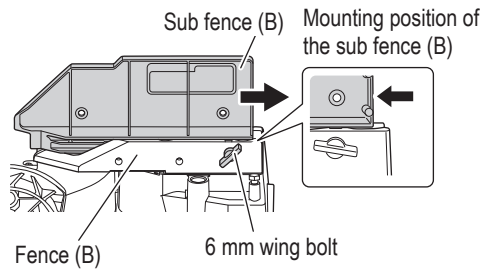

Fig. 20
When left bevel angle cutting, loosen the 6 mm wing bolt, then slide the sub fence (B) outward, as shown in Fig. 20. Failure to do so may result in the main body or saw blade coming into contact with the sub fence (B) and causing injury.
In the case of direct angle cutting and right bevel angle cutting, slide inward to the position where the sub fence (B) hits, and secure it with 6 mm wing bolt. (as shown in Fig. 20)
When changing the bevel angle to the left 45°, loosen the 6 mm wing bolt shown in Fig. 20, then slide the sub fence (B) outward and incline the motor head to the left.